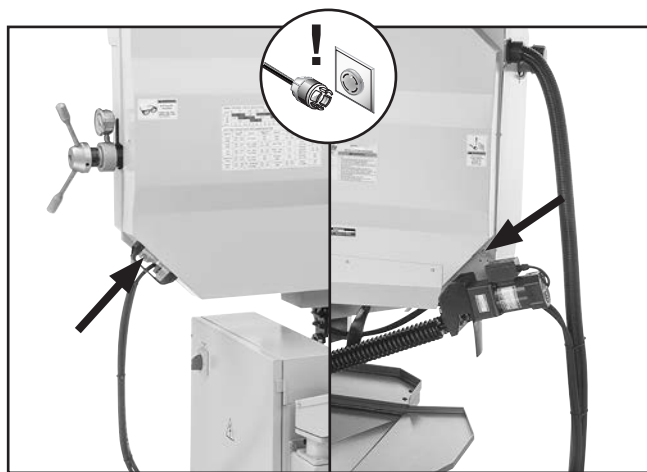

Figure 34. Wheel cover secure screws (2 of 4).
2. Open wheel cover by removing (4) button head cap screws (see **Figure 34**).